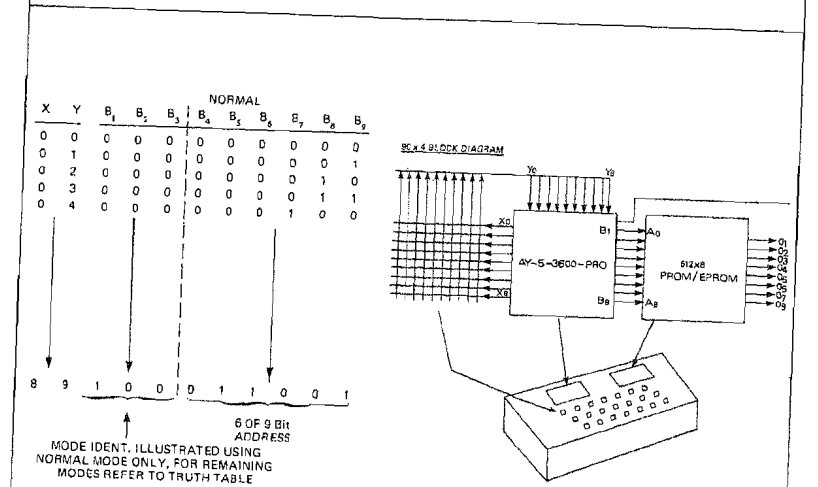

Fig. 9 90 KEY 4 MODE KEYBOARD APPLICATION
Expansion to a 90 key 4 mode operation (see Fig. 9) is identical to the 64 key 4 mode except: the 90 key 4 mode version utilizes the full complement of addresses X0 Y0 thru X8 Y9 (90 keys). The 8-bit binary code (B2-B9) previously produced to address the 256x8 PROM/EPROM is now expanded to a 9-bit binary code (B1-B9) for addressing to a 512x8 PROM/EPROM. With expansion to a 90 key 4 mode application outputs B1-B3 now serve as the variable mode identification.